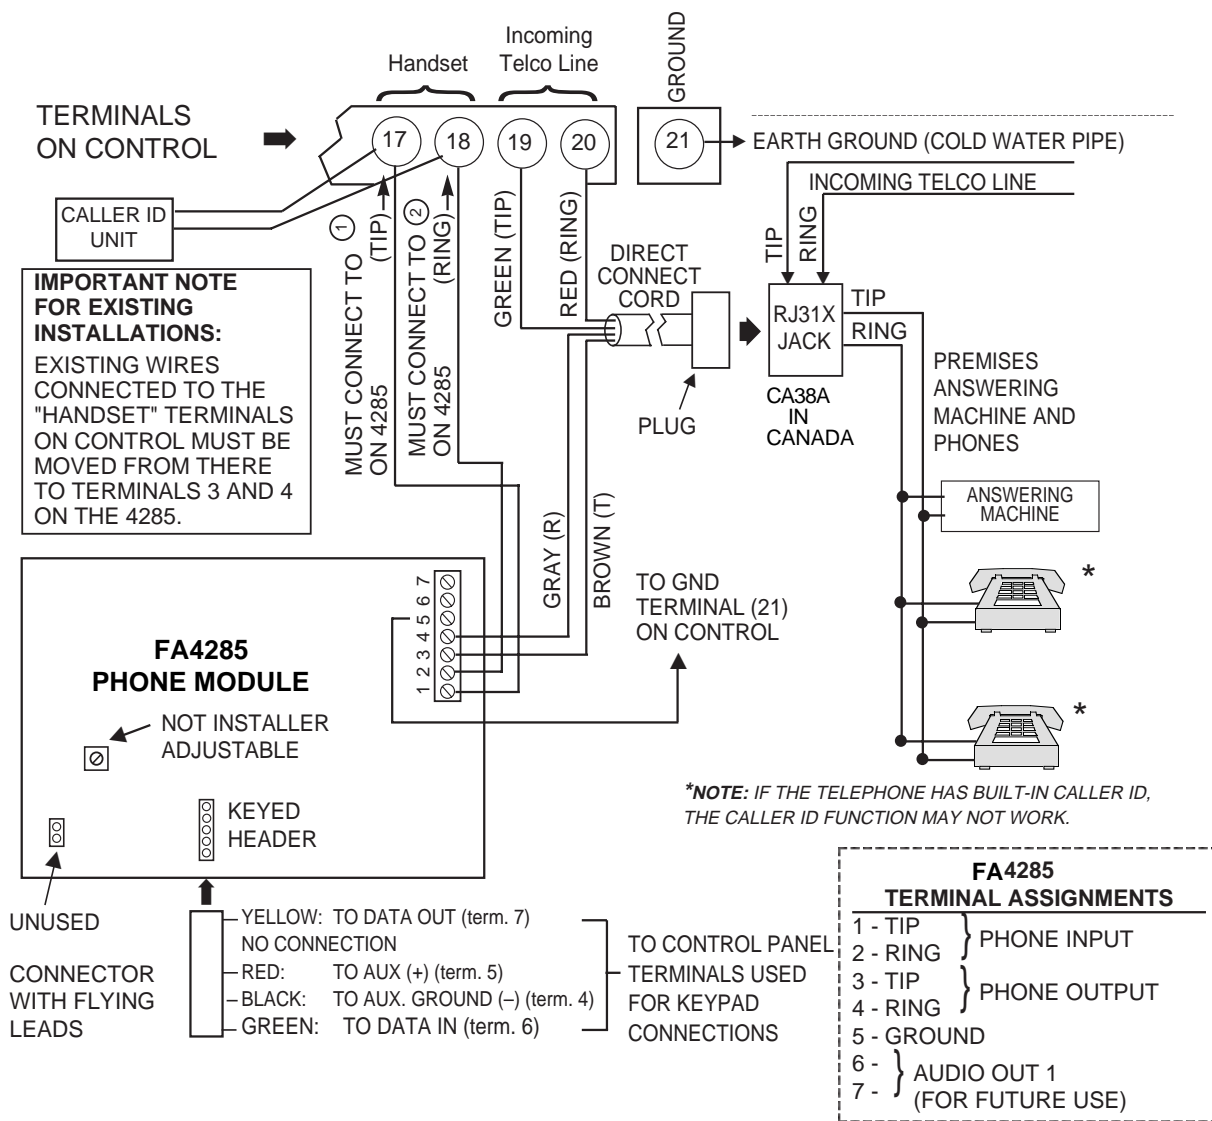

Figure 12. FA4285 Phone Module Wiring Connections
1. Make 12V (+) and (–) and data in and data out connections from the Phone Module to the control, using the connector cable supplied with the Phone Module (see Figure 12).